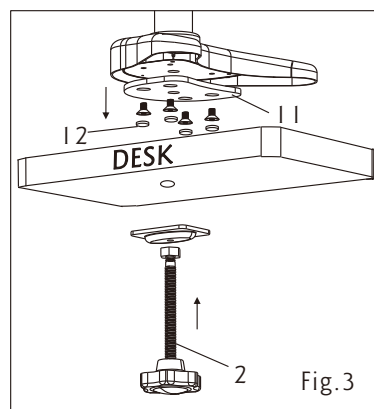

Fig.3
first, take off screw M6X10 and M10X20 by wrench,then remove the whole bottom support(8) to change bottom plate(11),tighten screwing 4pcs of M6X10,then stick 4pcs mat feet(12) to the screws,see the fig.3. After that, put the screw nut on the proper position of knob.The last step, make the Hand handle(2) get through the desk and then make nut tighten by wrench.